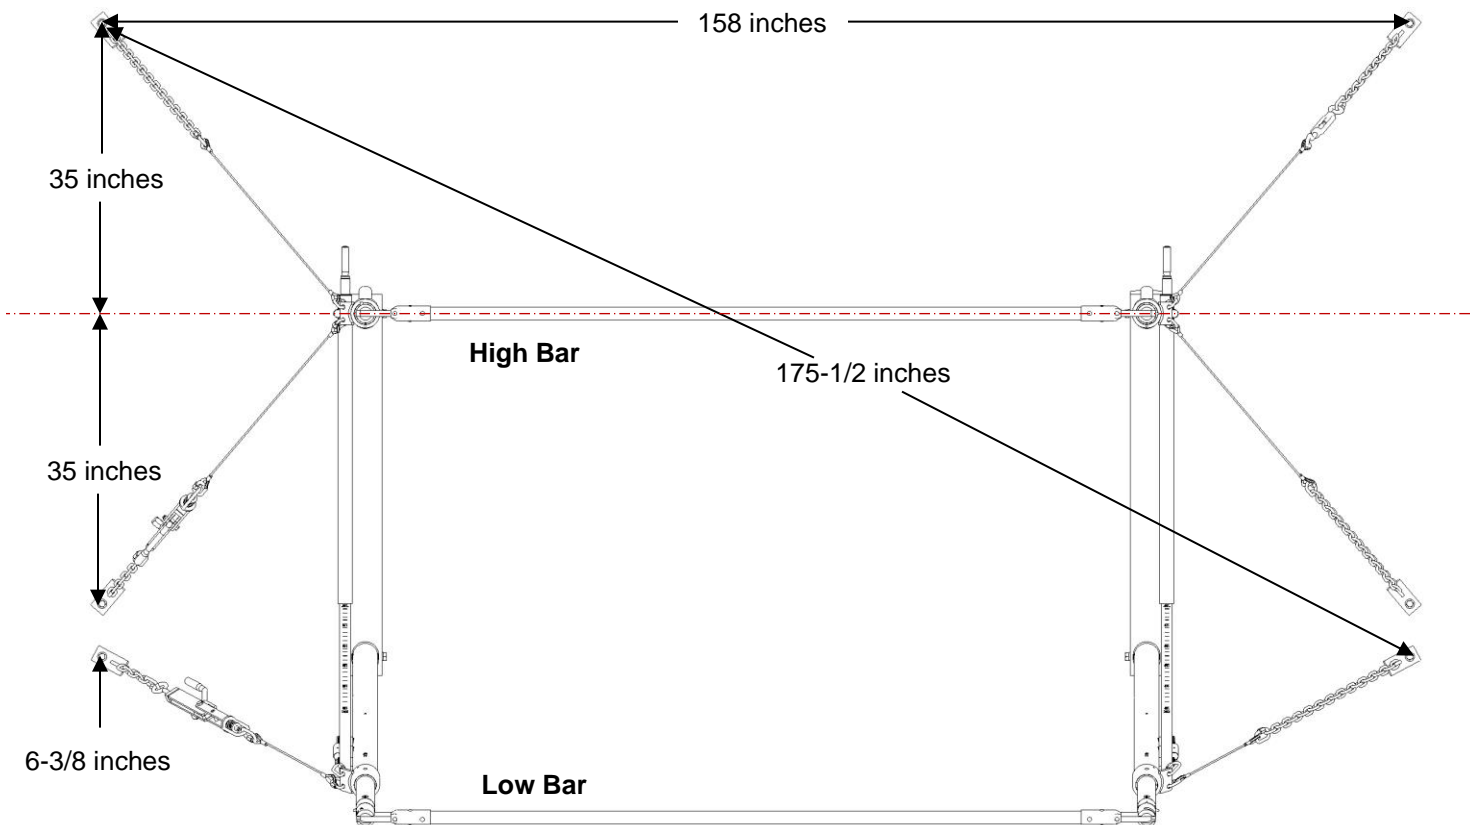

Figure 1: 5103-000 Six Acsys cable system layout
- Choose a location for the apparatus and mark out the 6 anchor points with the dimensions provided in Figure 1. **Refer to the Uneven Bars assembly instructions for any additional bases anchoring hardware required, as bases anchoring specifics pertain to the particular equipment you have purchased.**
The next steps require that you have installed or have in place floor sockets that are considered to be appropriate for safe use with Competitive Gymnastics Equipment. Spieth America recommends that the Socket Pattern be sized as per the dimensions shown in Figure 1.
6. Attach the Load Binders to the position shown in Fig.1. **The Quick Links #1 on the Load Binders must be used to attach to the cable end (See below). Attach Quick Link #2 to the installed Floor Sockets.** There will be one unused quick link on the Short Uprights.
- The floor sockets must be positioned correctly as shown in **Fig. 1**.
- Base location must be centered correctly. Compare the location of your upright assemblies with **Fig. 1**.